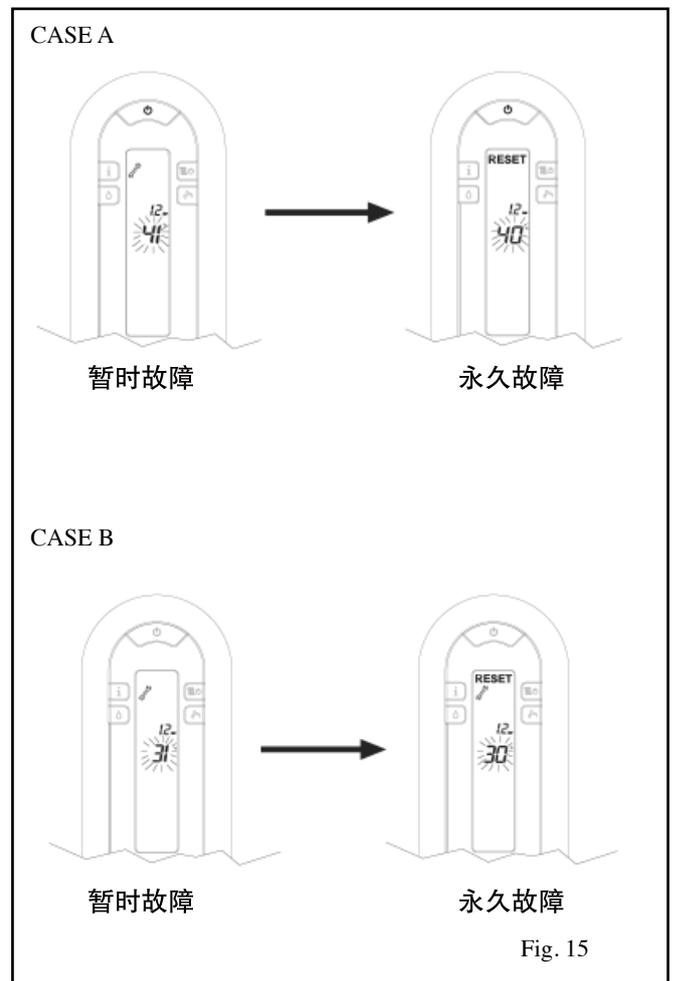

Fig. 15
case A (Fig.15)
case B (Fig.15)
3) 同时显示 RESET 及 (Fig.15)